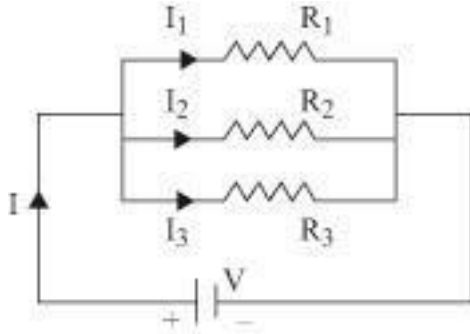

Figure 1.5
**Case (ii)** When three resistances are connected in parallel. Let  $R_1$ ,  $R_2$  and  $R_3$  be resistors in parallel as shown in figure 1.5. Let  $I$  be the supply current (or) total current  $I_1$ ,  $I_2$ ,  $I_3$  are the current through  $R_1$ ,  $R_2$  and  $R_3$ .